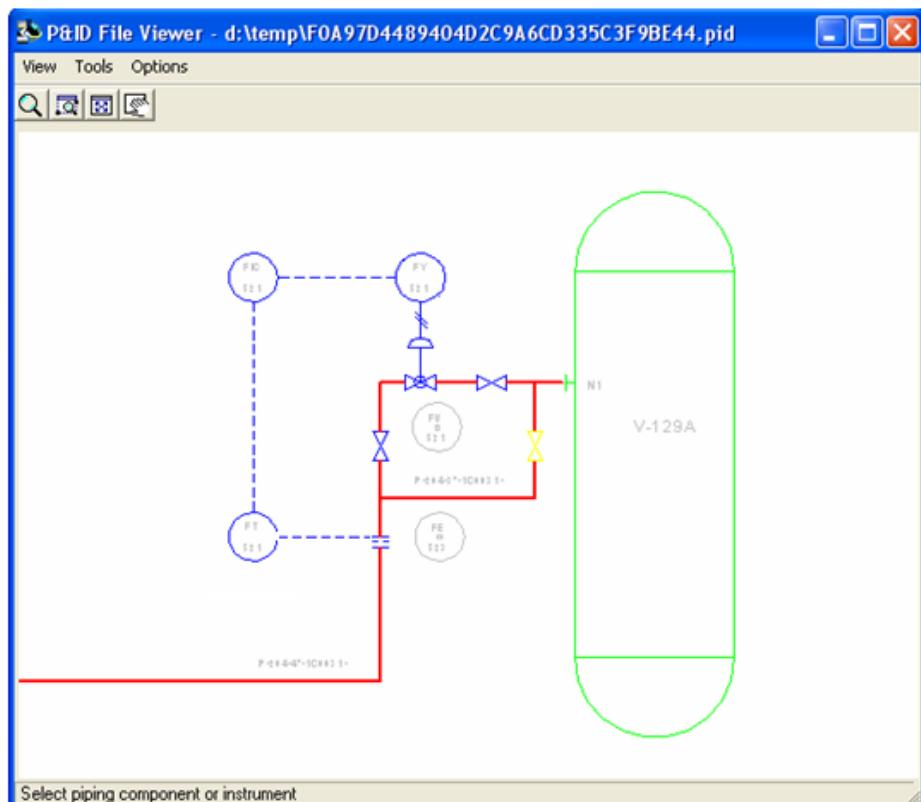

Figure 7. 40: Selected Gate Valve
21. Click **Finish** on the **Insert Component** ribbon to place the gate valve, as shown in Figure 7. 41.